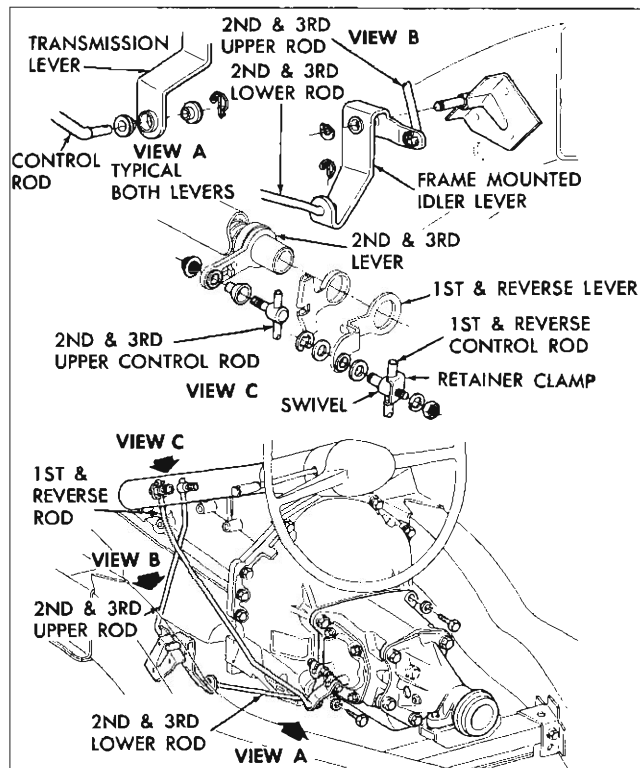

Fig. 1—Shift Linkage Adjustment
2. Move selector lever to neutral position. Align first and reverse shifter tube lever with the second and third shifter tube lever on the mast jacket (Fig. 1, View C).
3. Install both control rods on transmission shifter levers and secure with retaining clips (Fig. 1, View A).
- hole and secure with swivel nut (Fig. 1, View C).